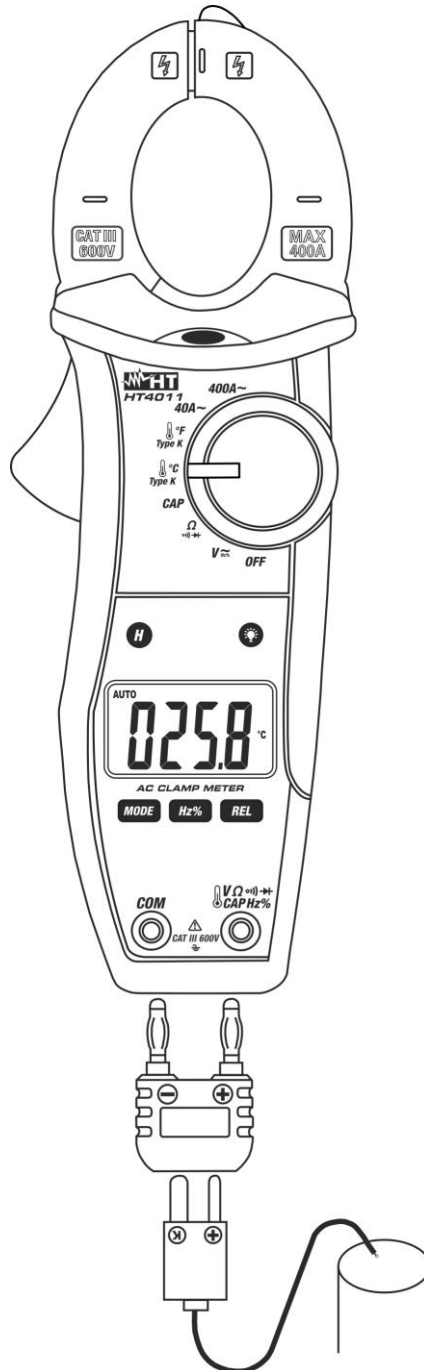

Fig. 9: Use of the clamp for temperature measurement with type K probe
2. Insert the K wire probe provided into input terminal **VΩ~CAPHz%** and **COM** by means of the relevant adapter, respecting the polarity indicated in Fig. 9. The display shows the value of temperature.